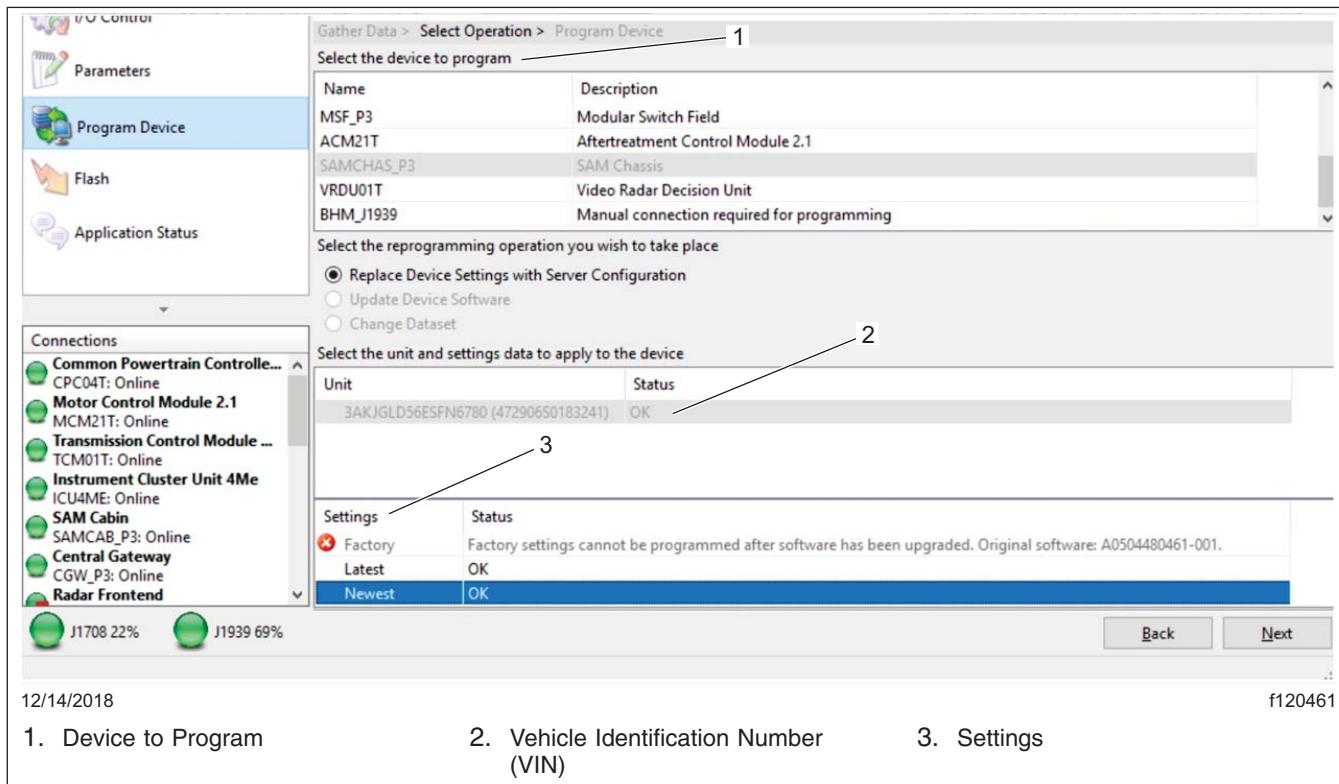

Fig. 10, Selecting "Latest" or "Newest" Software
11. Select the CGW to program and select the VIN. Then, if a "Newest" record exists, select "Newest." If only a "Latest" record exists, then select "Latest." Click "Next." See **Fig. 10.**